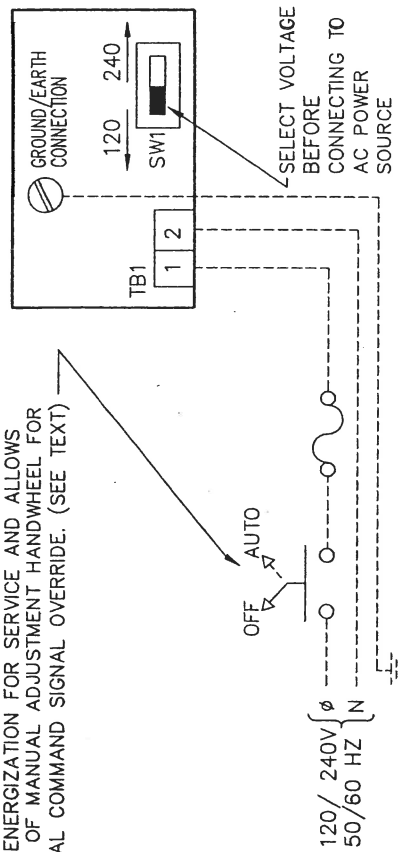

FIGURE 4A AC WIRING
- 2.7.4 Overcurrent protection should be supplied in the Line conductor of the Incoming Power – see Figure 4A. Recommended is 1/2 amp fusing for 120 VAC power, and 1/4 amps for 240 VAC power.
- 2.7.5 An OFF-ON or OFF-AUTO switch is recommended in the Line conductor of the Incoming Power - see figure 4A. Switch would disconnect AC power for service or to use the Manual Handwheel to override a remote command signal.